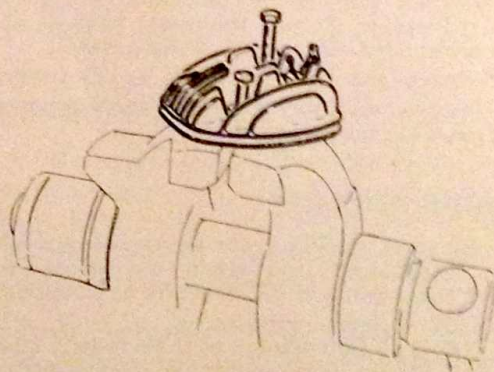

Fig. 7
- Fix the cylinder head in the vice by means of two bolts (see fig. 7).